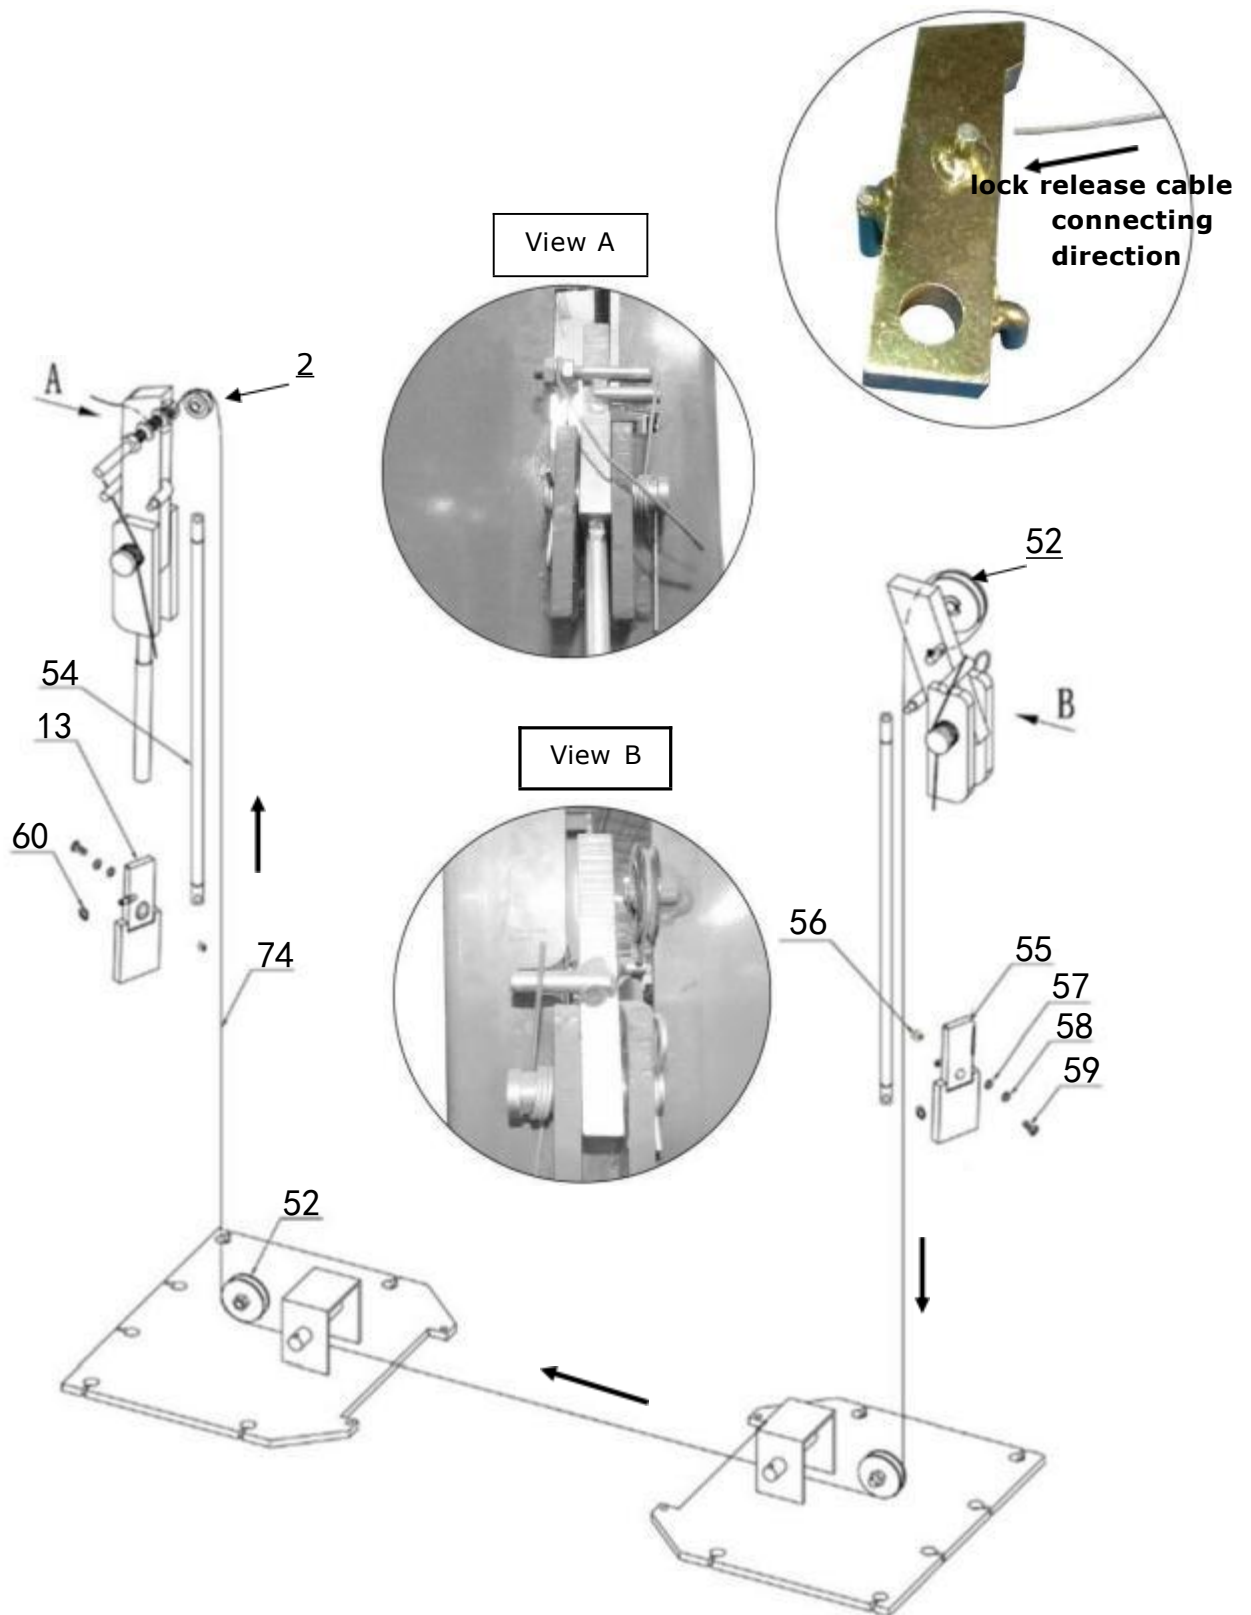

Fig. 22
L. Install safety cable (See Fig. 22).